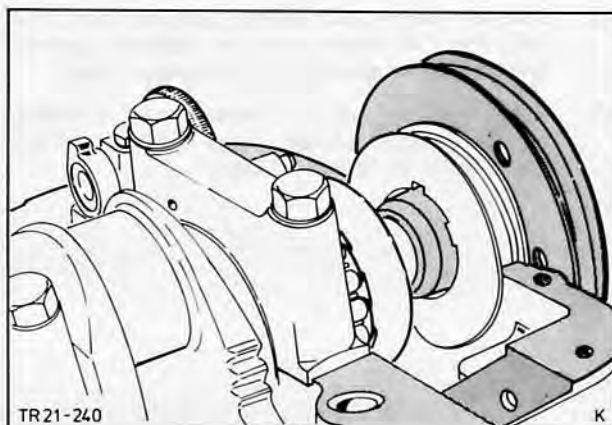

Fig. 59. Centre front cover with crankshaft pulley
44. Slide on oil slinger. Centre front cover equipped with a new oil seal (sealing lip lightly lubricated) with crankshaft pulley, Fig. 59.